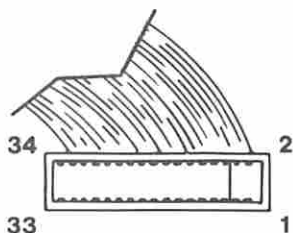

Figure 6. Signal Cable Voltage Check
- Check the voltage at pin 28 on the signal cable (Figure 6 on page 0600-12).